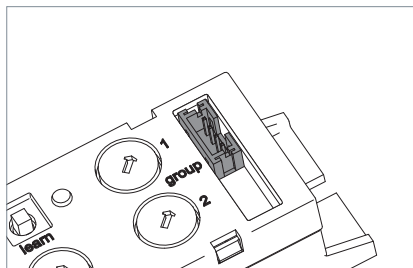

Fig. 3: Wireless module control interface.
- Connect one end of the connecting line to the "wireless module control" interface on the wireless module, see Fig. 3